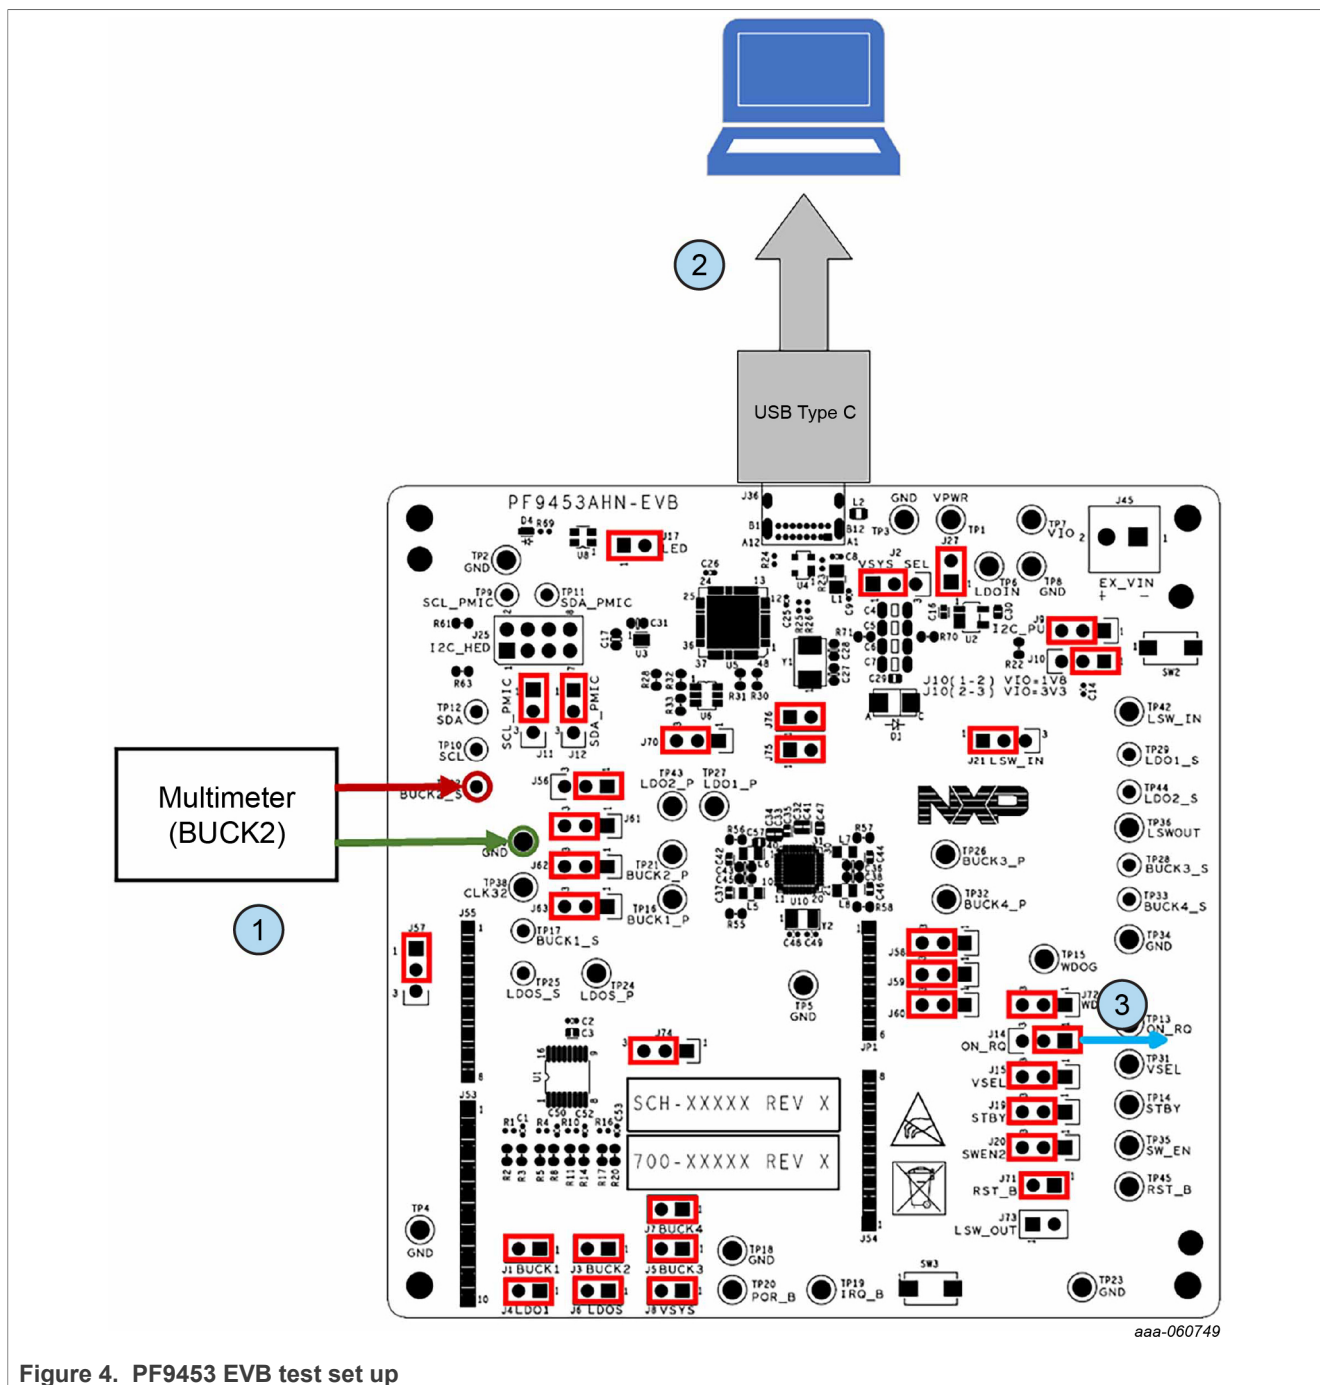

Figure 4. PF9453 EVB test set up
Figure 4 shows test setup block diagram.
Refer to the Figure 4 and follow the next steps to test the PF9453 QFN – EVB. Make sure that all jumpers are in the default positions before starting. (See section Section 6.3) and no other cables are connected to the PF9453 QFN – EVB:
1. Connect the positive terminal of the multimeter to TP22 (BUCK2_OUT) test point and the negative terminal of the multimeter to TP30 GND test point, see the Figure 4 where step 1 is represented with the circle with number 1.
- 2. Connect the USB-Type C to the PF9453 QFN –EVB. See that the green LED D4 is ON, refer to Figure 4 circle with number 2.
- 3. Move the J14 to position J14 (1 to 2), refer to Figure 4, circle with number 3 (this turns on the PMIC by setting the high state the PMIC_ON_REQ pin)
As shown in Figure 4 of the section Section 7.1 connect the USB-Type C cable and follows the steps of Section 7.2, if an external power supply is needed for especial test, i.e., efficiency tests refer to section Section 7.4.